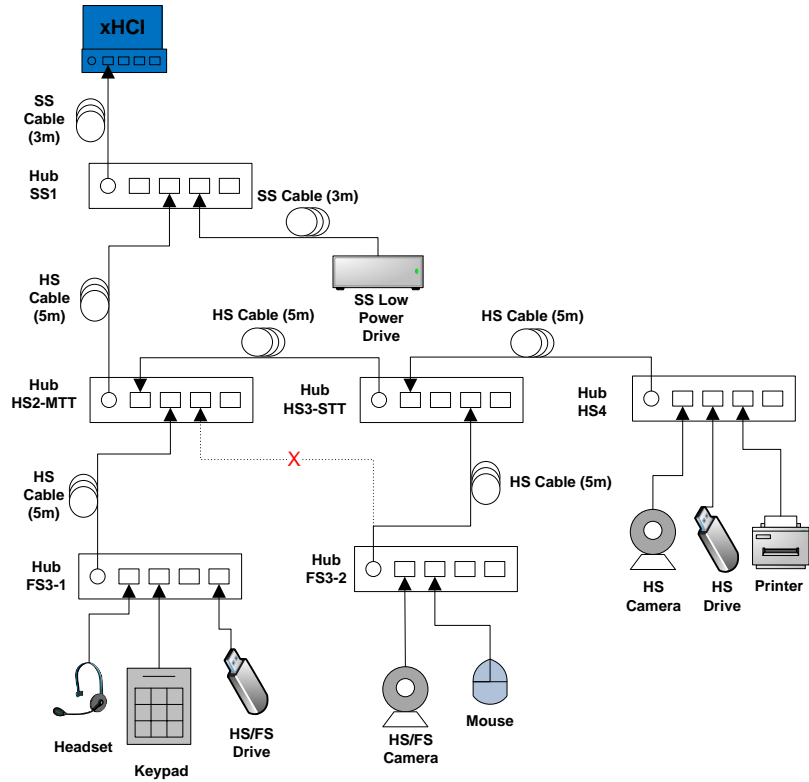

Figure 4: Topology Change 1 (Embedded Hub)
- Detach Hub FS3-1 from port 2 on Hub HS3-STT and reattach the Hub FS3-1 back to port 2 on Hub HS2-MTT. This should set the configuration back to what is displayed in Figure 4.